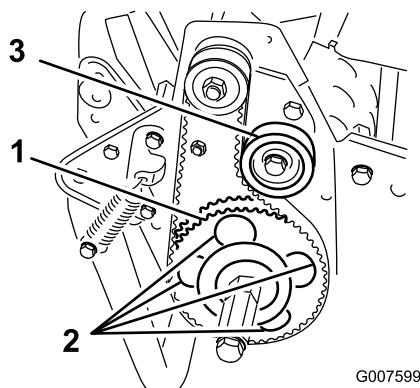

Figure 38
7. Rotate the driven pulley until the holes align with the 4 roller bearing flange screws (Figure 38).
11. Adjust the belt tension and tighten the idler pulley mounting screw (Figure 38).